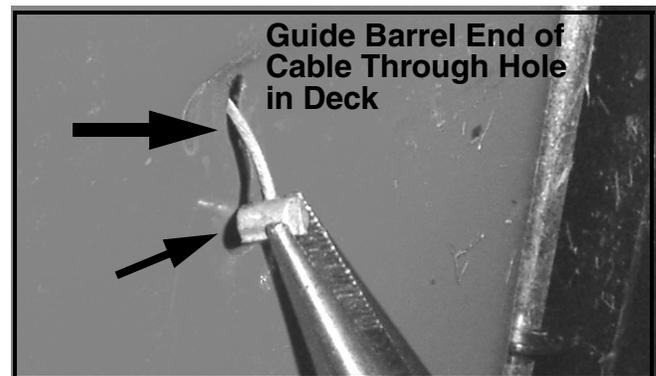

FIGURE 9
18. Unhook the end of the drive cable from the rear of the mower deck. See Figure 9.
33. Reconnect the barrel end of the drive cable to its' rear deck attach point. Refer to Figure 9.